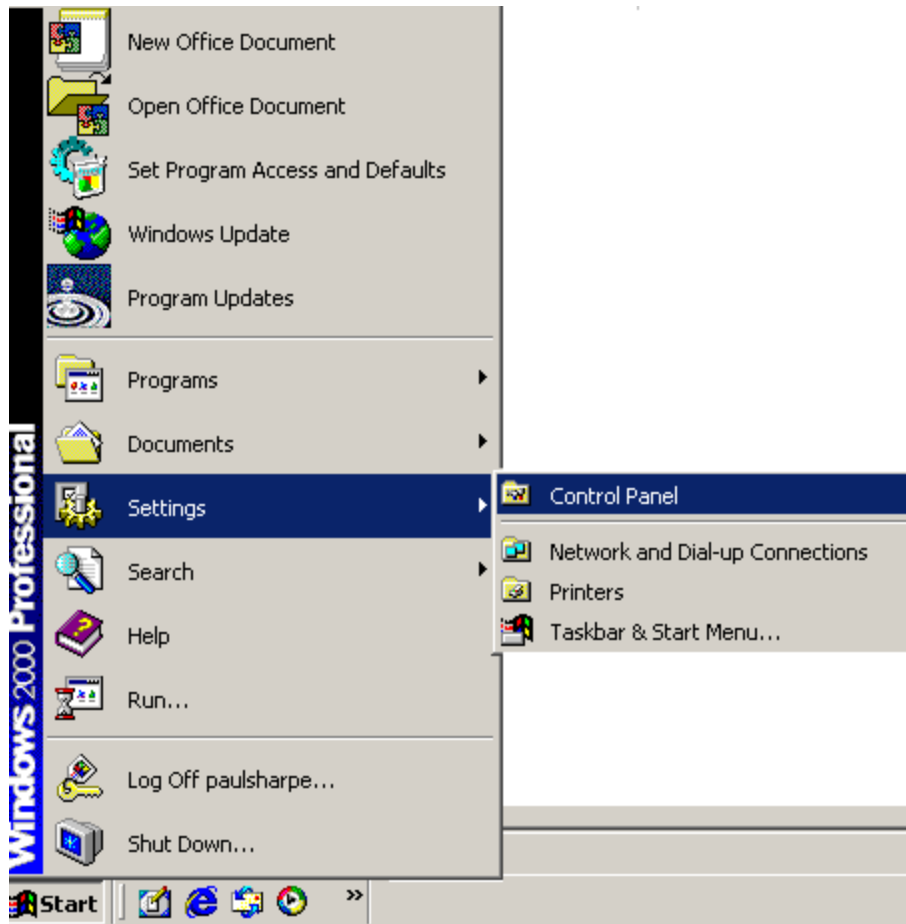

Figure 7-13: Access Windows Control Panel
**Step 1:** Open **Windows Control Panel** (Figure 7-13).